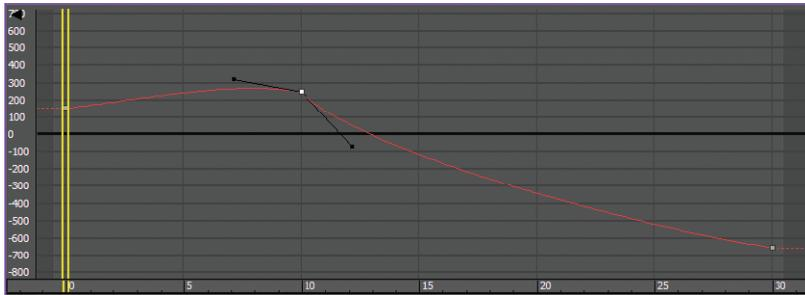

FIGURE 6.12 To create a believable anticipation for the knife throw, set your curve to resemble this one.
- Press Shift and drag the tangent handle down to create a curve that is similar to the one shown in Figure 6.12.